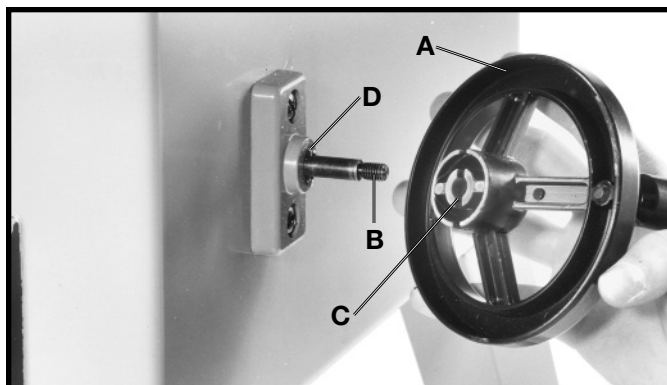
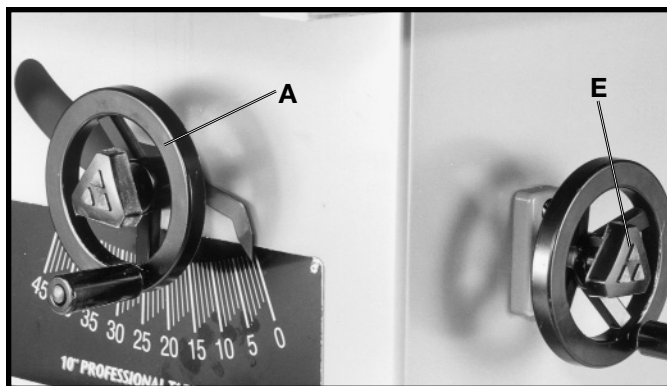

Fig. 11
Fig. 12
1. Place blade tilting handwheel (A) Fig. 11, onto shaft (B). Make certain slot (C) in handwheel is engaged with roll pin (D) on the shaft. Place a 10mm flat washer (D) onto shaft (B) Fig. 11. Thread locking knob (E) Fig. 12, onto shaft (B) Fig. 11.
2. Assemble the blade raising handwheel (A) Fig. 12, to the front of the saw in the same manner.